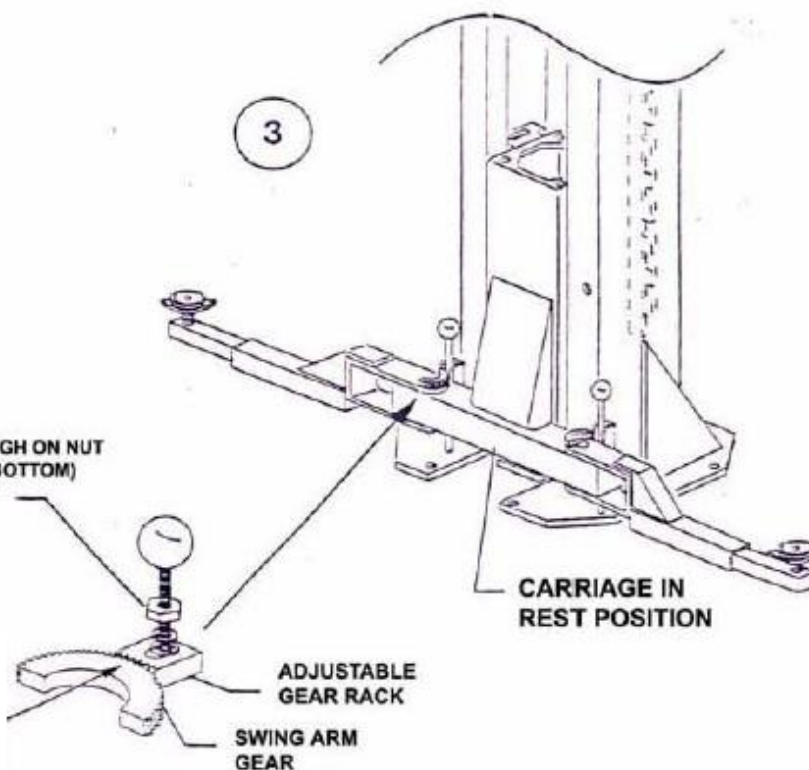

Fig. 17
3. Install **Arm Restraint** mechanisms to each swing arm, as detailed below (**Fig. 17**).